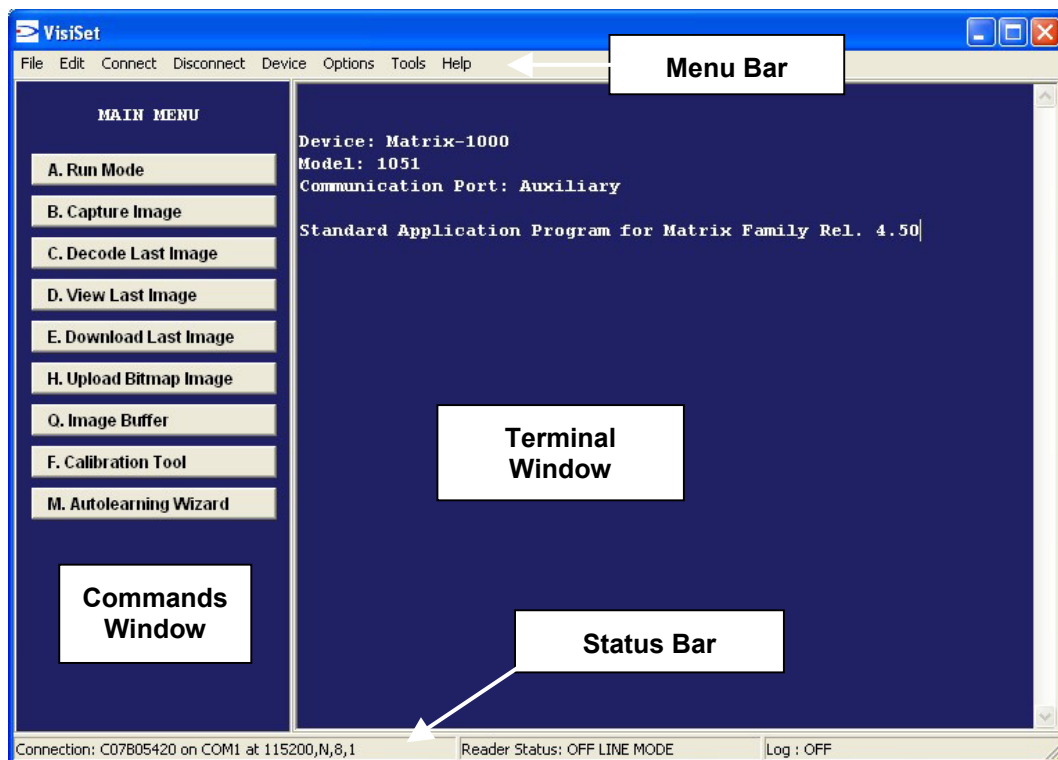

Figure 38 - Main Window
Upon connection, Matrix-1000™ exits Run Mode and displays the Main Menu on VisiSet™ with all the commands necessary to monitor your reader's performance. You can select these commands using the mouse or by pressing the key corresponding to the letter shown on the button. See Figure 38.
The **Options** item from the VisiSet™ menu (see Figure 38) presents a window allowing you to configure:
6. Close the Parameter Setup window and press **Disconnect** on the VisiSet™ menu bar (see Figure 38) or launch **Run** Mode from the VisiSet™ Main menu.